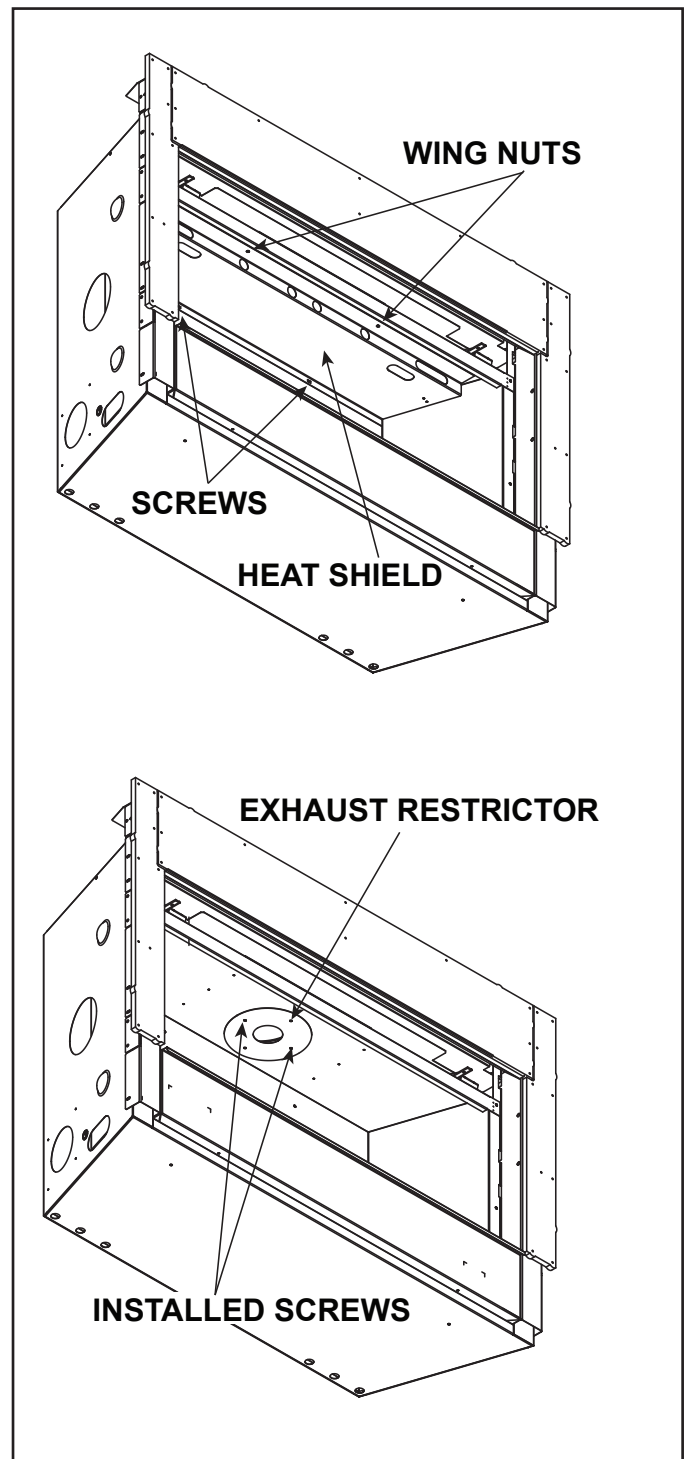

Figure 4.17 Installing Restrictor
2. Center the exhaust restrictor in the open end of the exhaust outlet and secure through the slots on the exhaust restrictor with the two 1/4 in. self-tapping screws provided in the appliance manual bag. See Figure 4.17.